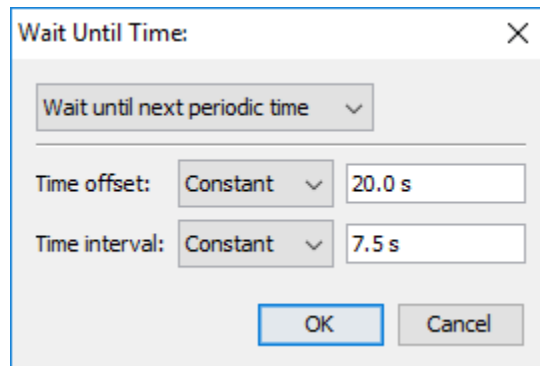

Figure 110. Wait Until Time dialog
2. Click the time to edit the value, which will show the **Wait Until Time** dialog as shown in Figure 110.